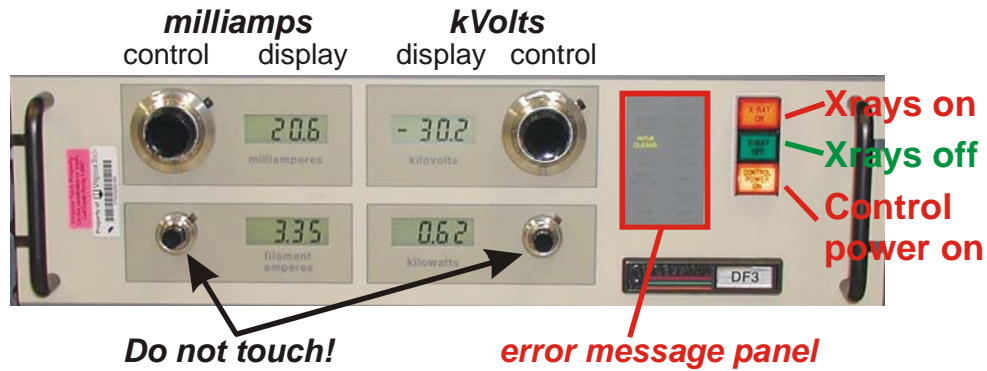

Figure 1: Spellman Generator Controls
- d) On the generator, press the orange CONTROL POWER ON button (Fig 1). You should see:
- The green XRAY OFF button should light up (Fig 1).
- a green INTLK CLOSED message should illuminate in the error message panel (Fig 1). If INTLK OPEN is lit, then there is no cooling water, so check the KMW3000 chiller. If these three things don't happen exactly as described (for example, if additional messages appear), discontinue the startup procedure and contact the instrument scientist or the technical staff.